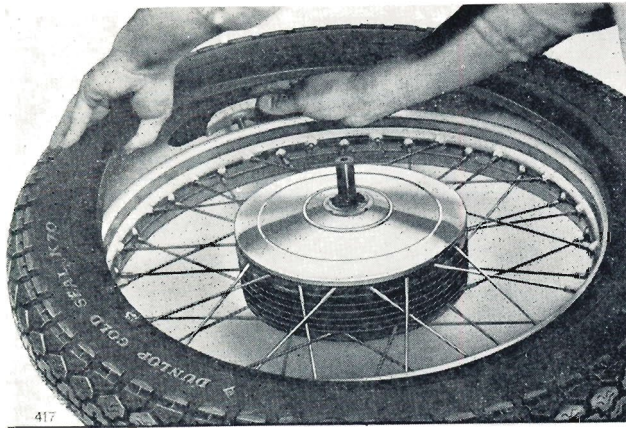

Fig. F20. Placing the security bolt in position
- (1) Fit the rim band.
- (2) Fit the first bead to the rim without the inner tube inside.
- (3) Assemble the security bolt into the rim, putting the nut onto the first few threads (see Fig. F20).